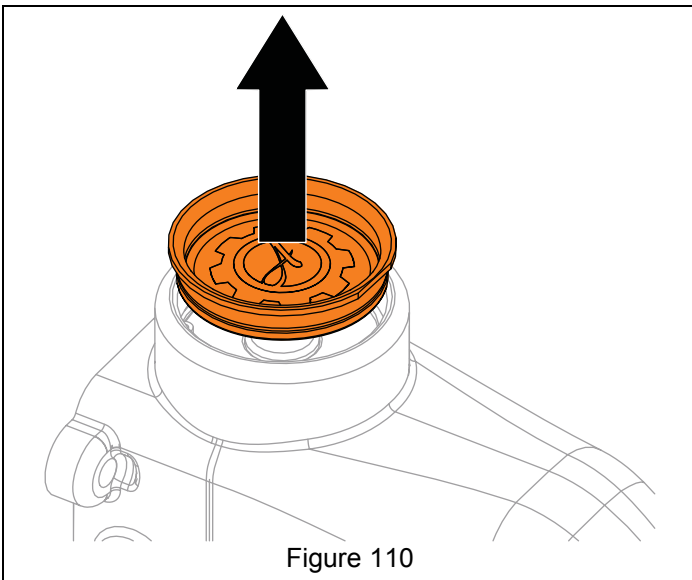

Figure 110
9. With a flathead screwdriver or similar pry bar, remove front seal cover and discard. See Figure 110.